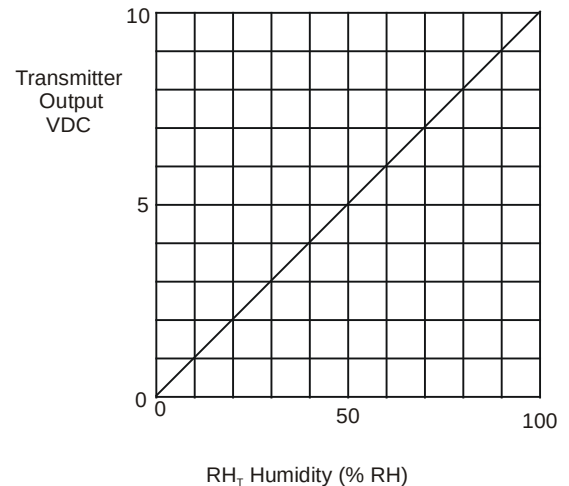

Figure 9: Transmitter Voltage vs. Humidity
* See Figure 9 for RH_T vs. Humidity illustration.
- Connect a DC voltmeter between the transmitter OUT wire and the control COM terminal. Using Figure 9, convert the voltage to % RH. This is the humidity reading at the transmitter (RH_T).
Note: A transmitter output of 0-10 VDC should correspond to a humidity of 0-100% RH (see Figure 9).